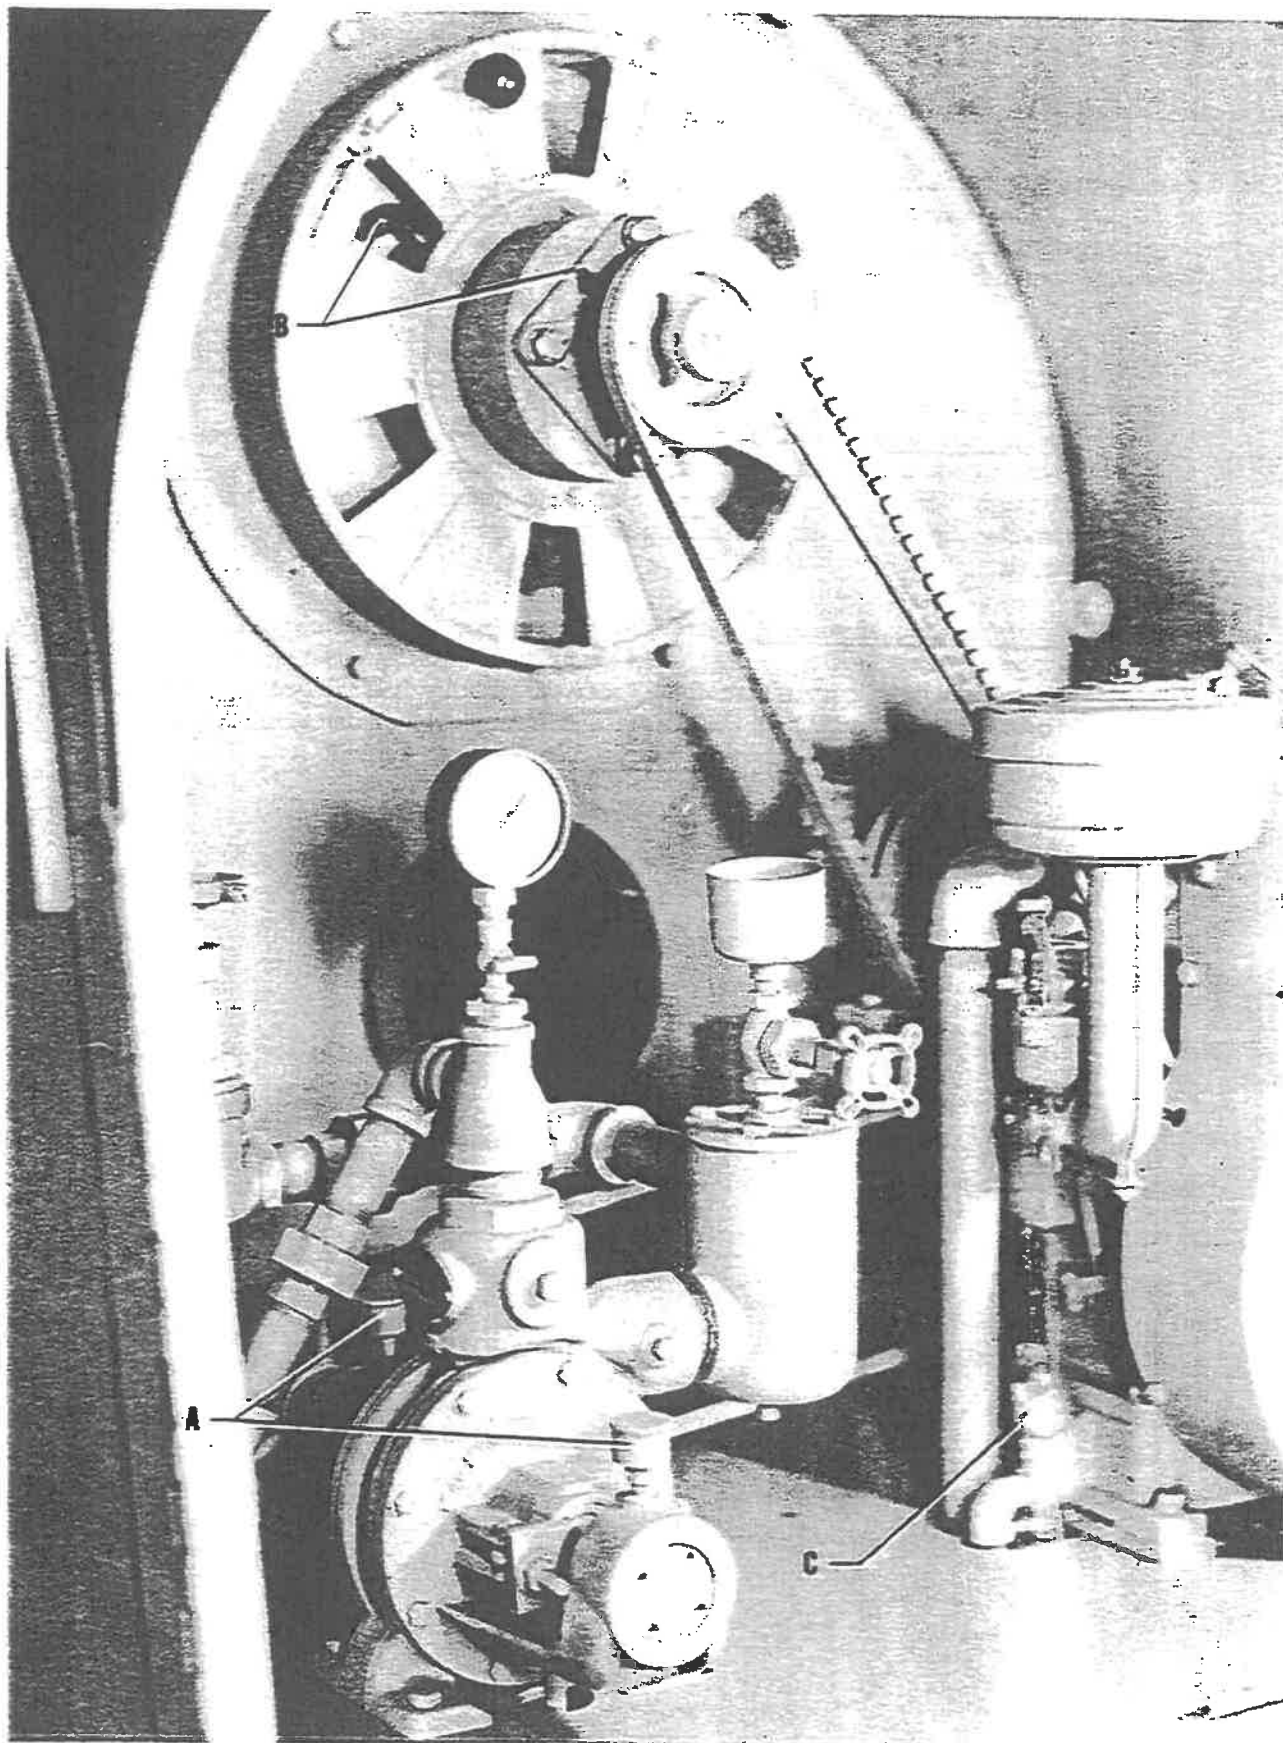

Fig. 10 - Lubrication Points
(Refer to Figure 10)
- (b) Water Pump Bearings - The water pump is equipped with two grease cups (See A, Fig. 10.) Approximately every 20 hours of operation the cup should be turned clockwise about 1/4 turn. When empty refill with a soft lime base grease similar to Standard Oil Company Superla No. 18 or equal.